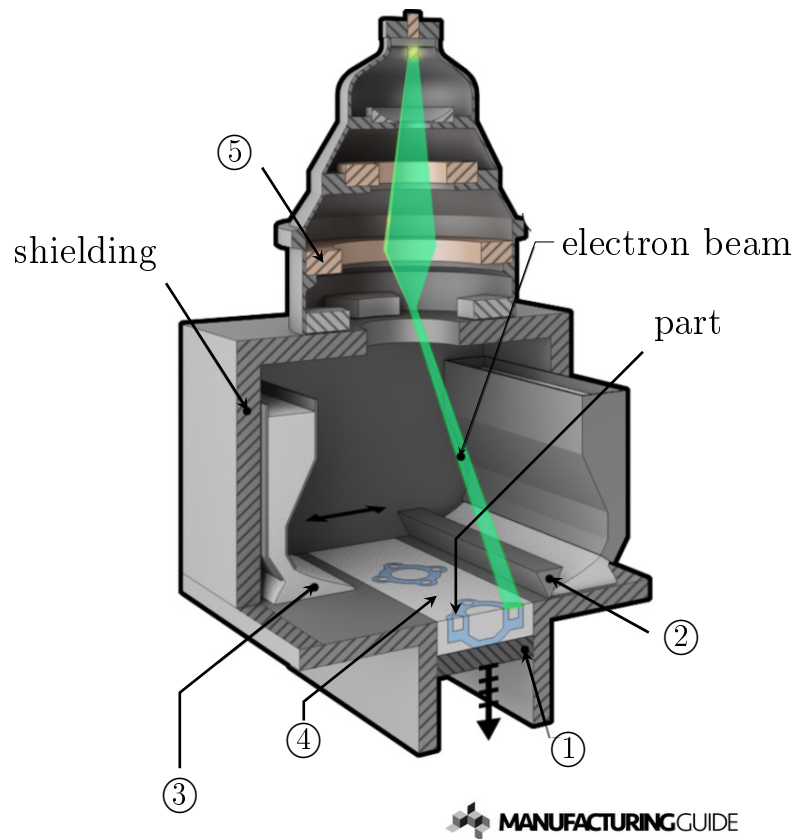

Figure 1: Schematic representation of an additive process
a) Fig. 1 represents a known additive process. Give its acronym and its complete name.
b) In Fig. 1, five elements are not named but numbered ①-⑤. Describe those items below:
①:
②:
③:
④:
⑤:
c) In Fig. 1 it can be observed that the shielding is thick. What is the reason behind it?